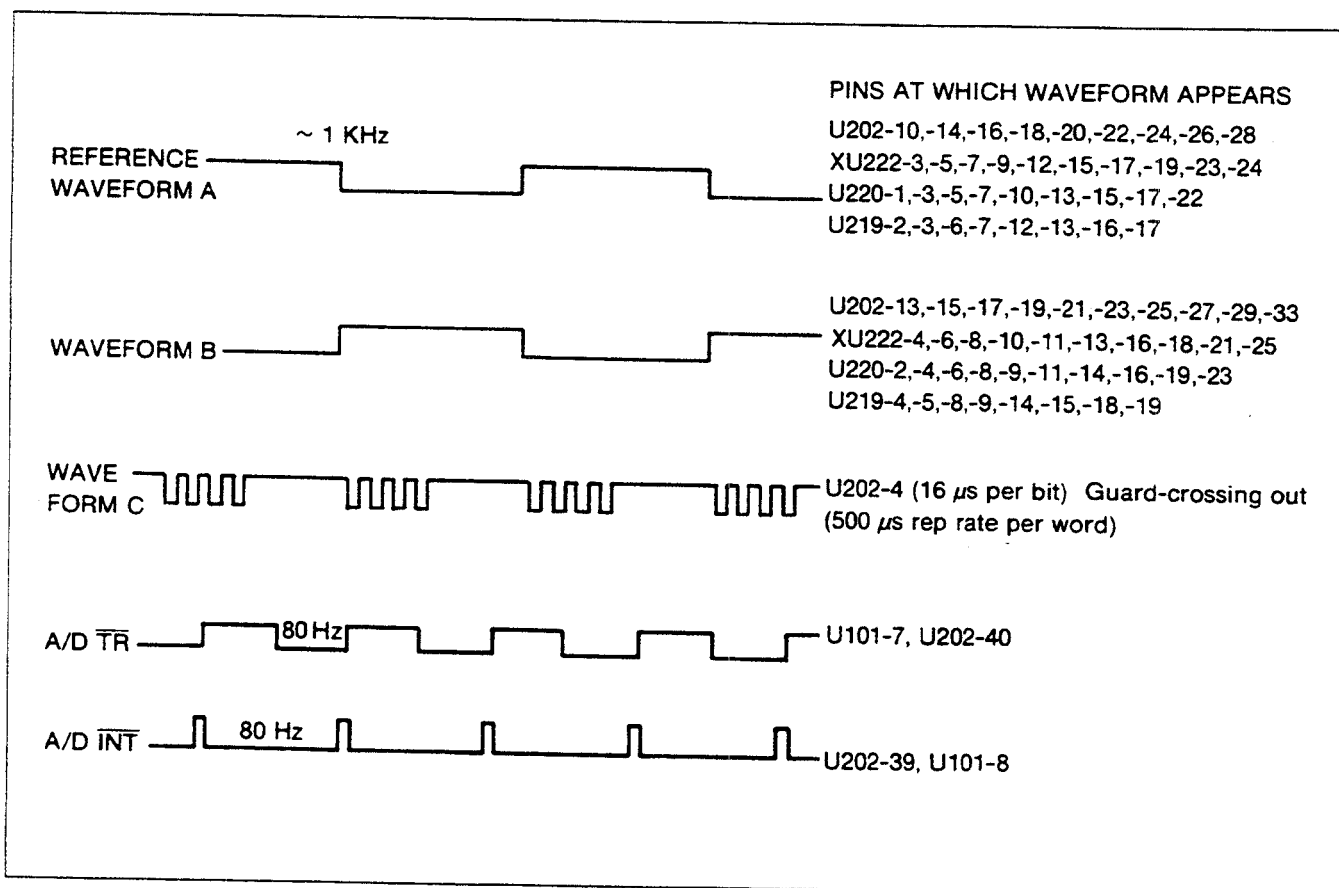

Figure 6-10. Waveforms for In-Guard Troubleshooting Mode
7. Output test patterns (see Waveforms A and B in Figure 6-10): 1 kHz square wave on indicated pins, 50% duty cycle, low 0V, high 3.8V nominal. (The waveforms are interrupted every 1.5 sec for 0.2 sec due to interrupts from the watchdog timer.) To observe these patterns, remove U220, attach a logic clip to address latch U219 and sync on U219-3 for Reference Waveform A on channel 1 of a dual trace scope. Compare channel 1 with waveforms at U202-10, -14, -16, -18, -20, -22, -24, -26, -28. These should all be the same as reference Waveform A (including phase). Then compare channel 1 with waveforms at U202-13, -15, -17, -19, -21, -23, -25, -27. These should be the same as Waveform B, which is simply the opposite phase of Waveform A.
Verify that U219-2, -6, -7, -12, -13, -16, -17 are the same as Waveform A (see Figure 6-10) on U219-3. Verify that U219-4, -5, -8, -9, -14, -15, -18, -19 are the same as Waveform B. The waveforms should be interrupted every 1.5 sec for 0.2 sec due to interrupts from the watchdog timer.
Sync on U219-3. Verify that XU222-3, -5, -9, -12, -15, -17, -19, -23, -24 are the same as Waveform A (see Figure 6-10) on U219-3. Verify that XU222-4, -6, -8, -10, -11,